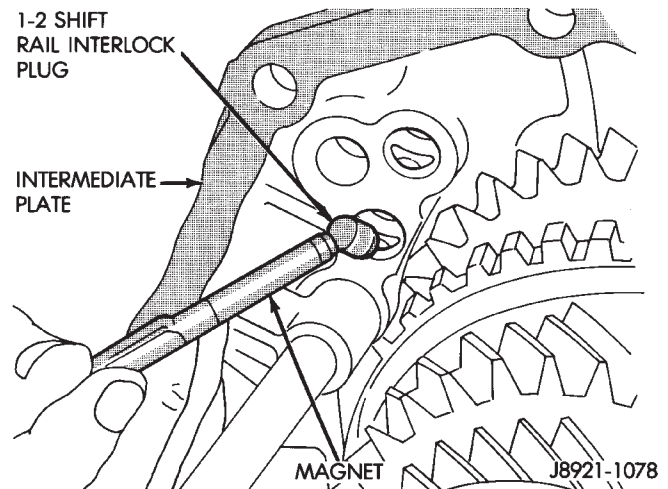

Fig. 90 Installing 1-2 Shift Rail Interlock Plug
(6) Coat 1-2 shift rail interlock plug with petroleum jelly and install it in intermediate plate bore (Fig. 90).